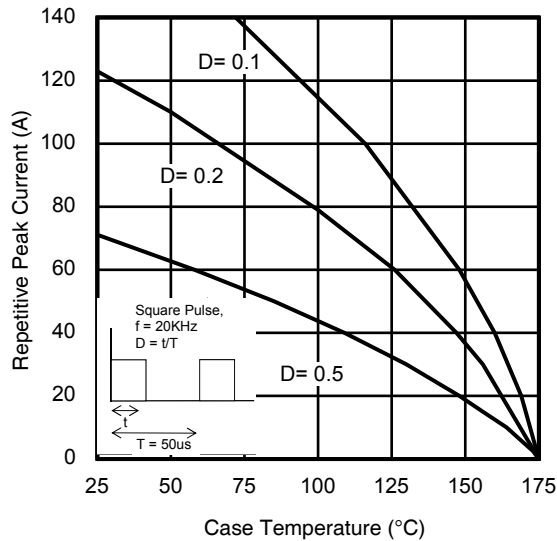

Fig. 19 - Maximum Diode Repetitive Forward Peak Current vs. Case Temperature
- ① $V_{CC} = 80\% (V_{CES}), V_{GE} = 20V, L = 23\mu H, R_G = 10\Omega$.
- ② Pulse width limited by max. junction temperature.
- ③ Refer to AN-1086 for guidelines for measuring $V_{(BR)CES}$ safely.
- ④ $f_{sw} = 20KHz$, refer to figure 19.
- ⑤ R_{θ} is measured at T_J of approximately 90°C.
- ⑥ Sinusoidal half wave, $t = 10ms$.